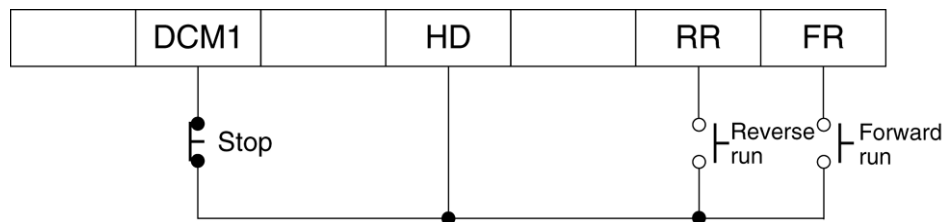

Figure 6.1 Operation signal hold circuit
- (1) To use a push-button switch or other momentary contact to control operation, wire the circuit as shown in Figure 6.1 and set the appropriate function codes (codes related to the multifunctional input terminals and Cd001 = 2).